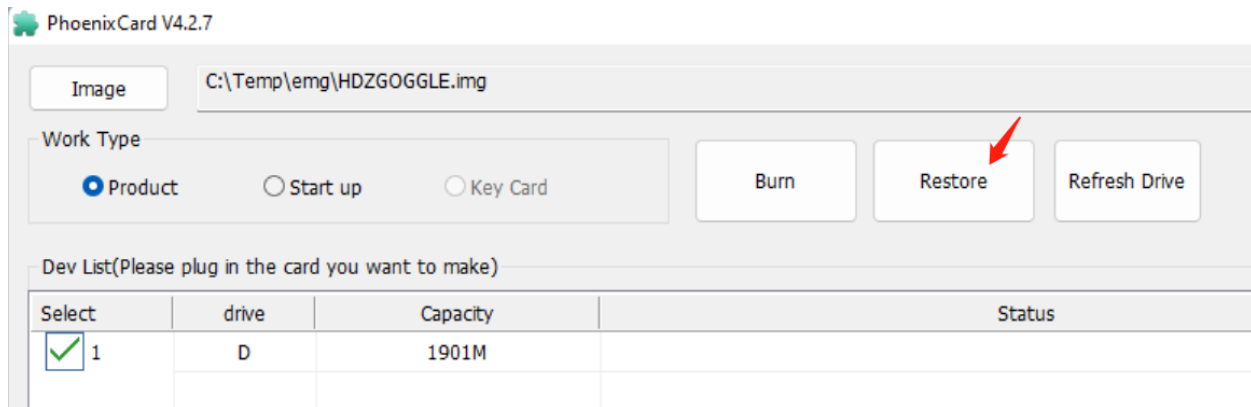

FIG 6. Restore a SD Card
6. Follow the FIG.6 to restore the SD Card from BOOT mode, and format it as FAT32 on Windows;